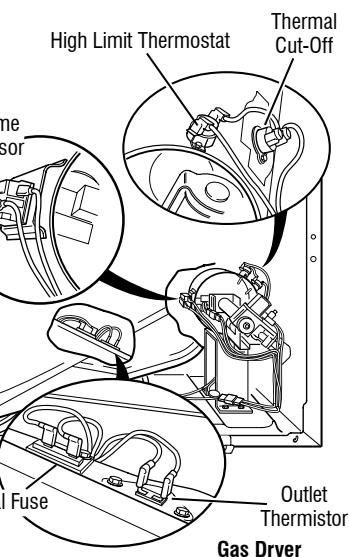

Figure 12 - Thermal components, gas dryer, viewed from front.
5. Locate the high limit thermostat (see figure 12). Measure the continuity through it by connecting the meter probes to the red and black wire terminals.